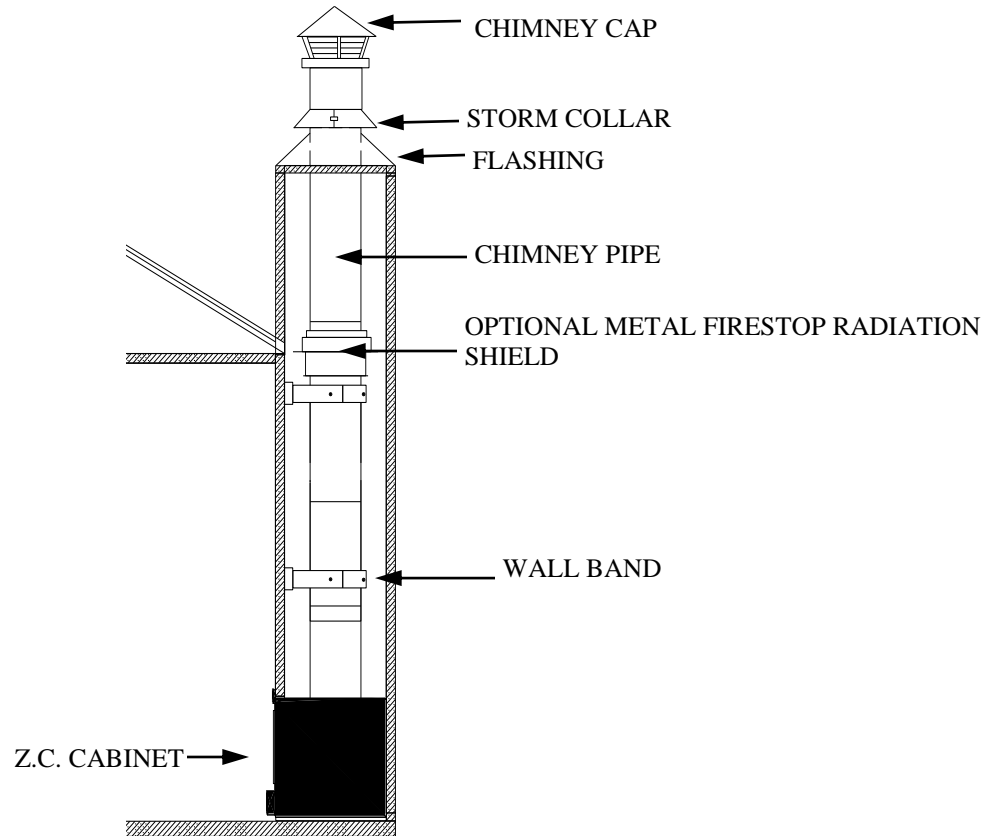
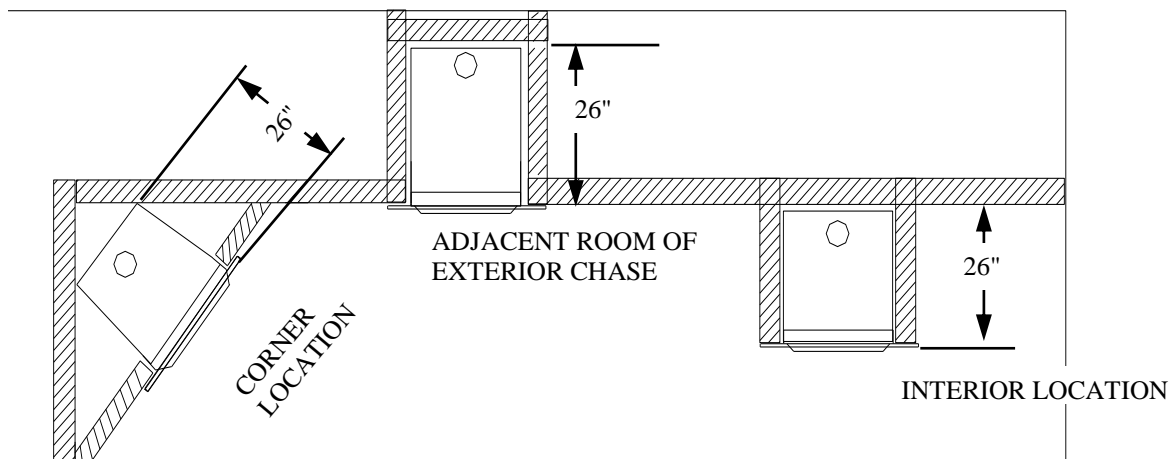
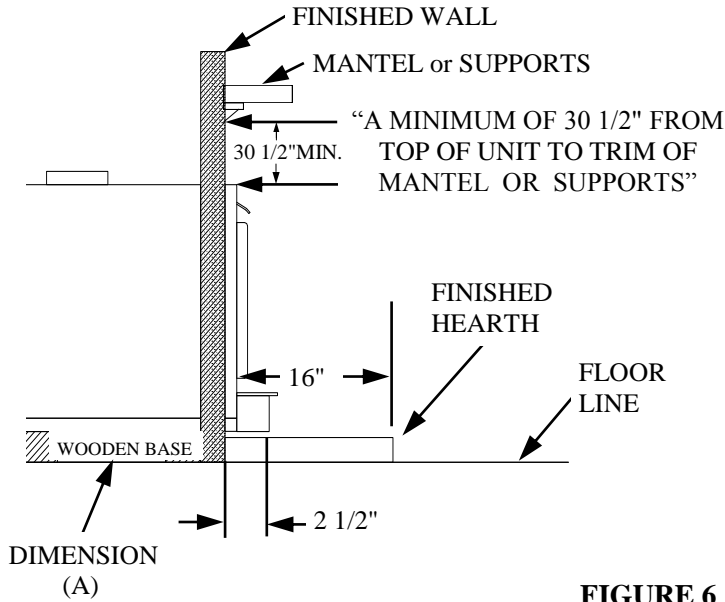
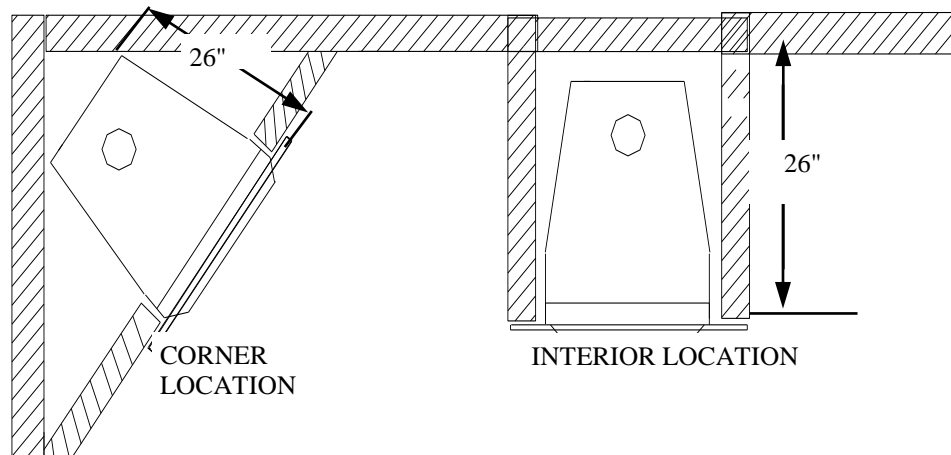

FIGURE 4 EXTERIOR WALL CHASE
FIGURE 5
FIGURE 6
FIGURE 12
- B. Exterior Chase Installation: (See Figure 4). A chase is an enclosure built specifically to house a chimney. The interior of a chase is open from Model 51ZC to the roof, eliminating the need to cut through ceilings and the roof. Normally, a chase is built through the wall, and the Model 51ZC is located in the bottom of the chase, with the front of the unit flush with the interior wall. Chases are commonly veneered on the outside with brick, stone or wood to give the appearance of a conventional fireplace flue. Occasionally, they are built inside and boxed in, similar to a stairwell. When making a chase installation, it is important to read the chimney manufacturer's instructions prior to building, as there are specific requirements for bracing a free standing flue that must be planned for. There are also occasions where offsets are used within a chase to accommodate unusual building designs, or to locate the Model 51ZC further into a room.
Above (Figure 5) are framing location examples with depth dimensions for some typical configurations. These are finished measurements so install accordingly.
The base for the Model 51ZC must be level with or slightly higher than the "finished" hearth height dimension (A) Figure 6.
Framing must be accomplished after the Model 51ZC is set in place. The chimney can be installed after framing, but installation is considerably more difficult and in some cases, impossible. Therefore, it is recommended that the chimney be installed prior to framing when a choice exists. Figure 5 on the previous page shows framing location examples with depth dimensions for some typical configurations. These are finished measurements so install accordingly.
3. Frame the ZC Cabinet using 2" x 4" studs or local building code framing. Some minor framing restrictions are required: Mantel Height (See Page 8 Figure 6)
- (A) Adjacent side walls must be at least 16" from the outer edge of the Cabinet trim panel.
- (B) The overall opening dimensions must be at least 37 1/2" wide and 34 3/4" high and 26" in depth.
- (C) 2"x 4" framing above the unit must be turned flat. This allows proper clearance from framing (2" minimum). (See Page 5 Figure 4.)
2. Layout the location on the floor for the ZC cabinet .(See Page 7 Figure 5.)
- b. 2" x 4" framing above the unit must be turned flat. This allows proper clearance from framing to chimney (2" minimum). (See Page 5 Figure 4, and Page 10 Figure 9)
Except as noted, the 51ZC can be installed almost anywhere you desire. There are, however, a few clearance and framing restrictions that must be followed. See Page 6, Figure 5, and Page 7, Figure 6, also Figure 12 to make sure that these clearance restrictions are met. It is much wiser to place your 51ZC correctly at the start of the installation than to be forced to relocate it after much of the work is done.